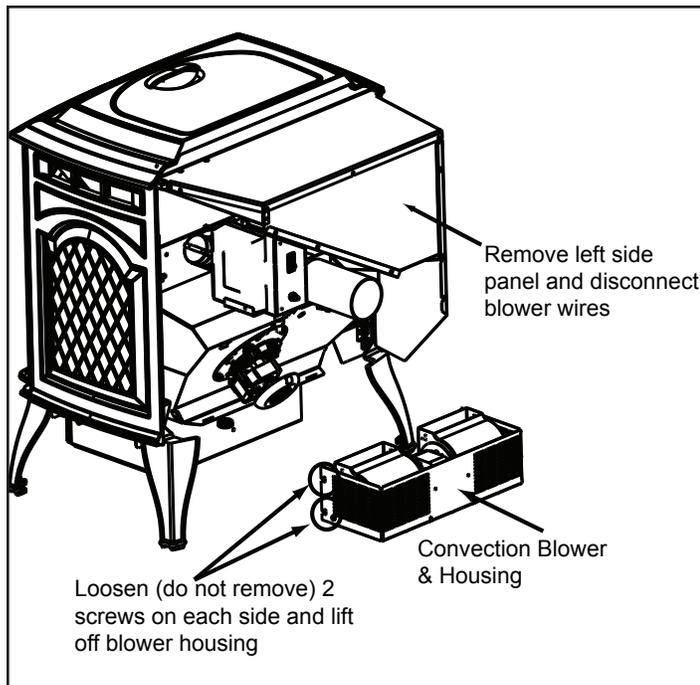

Figure 22.1
- d. There are 2 screws on each side of the housing. Loosen all 4 screws, but do not remove them. Lift the blower housing up slightly and slide towards you. **Figure 22.1 on page 22.**